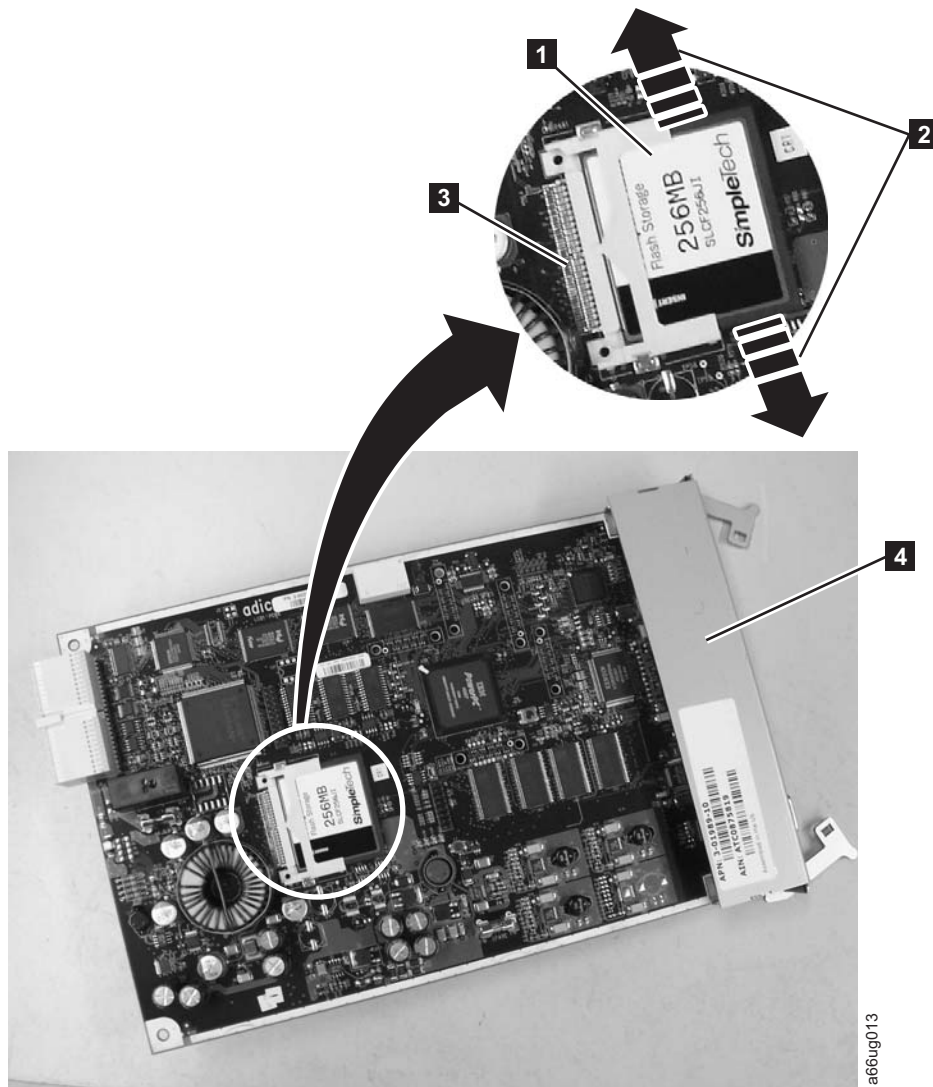

Figure 8-39. Removing the Compact Flash Card from the Library Control Blade
1. Locate the compact flash card component on the LCB board (**1** in Figure 8-39).
2. Without touching any other components on the LCB firmware board, carefully grasp the compact flash card and wiggle it using a gentle, side-to-side motion (**2** in Figure 8-39) until the pins on the compact flash card become disconnected from the pins on the LCB board (**3** in Figure 8-39). Then, slowly slide the compact flash card out of the guide slots.
4. If you are installing a new LCB, continue by transferring the old CF to the new LCB. If you are installing a new CF card, continue by installing the new CF card in the old LCB. In either case, install the appropriate compact flash card to the LCB board you are installing with the label up, and pins aligned. Without touching any other components on the LCB board, carefully grasp the compact flash card, and slowly slide it into the guide slots. Continue to push the compact flash card into the guide slots until the pins start to connect. Then hold the LCB board metal connector shield (**4** in Figure 8-39) with one hand
and push the compact flash card into the connector with your other hand. The compact flash card should be firmly seated against the connector (**3** in Figure 8-39 on page 8-41).